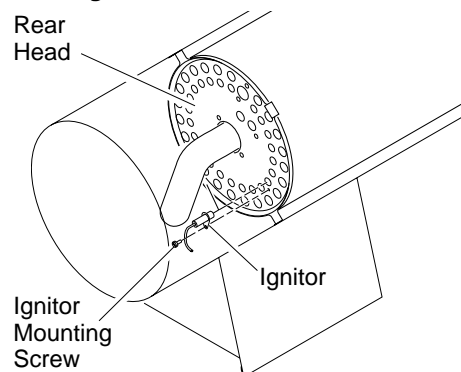

Figure 18 - Removing Ignitor Mounting Screw and Ignitor
3. Remove ignitor mounting screw from rear head using nut-driver or standard screwdriver (see Figure 18).